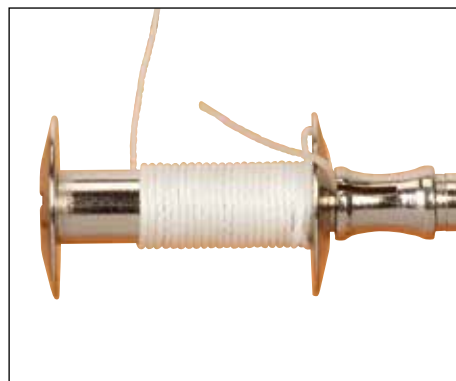

Figure 12
- 2) With a light tension on the thread, turn the drill over slowly and allow the bobbin to wind evenly. **(Figure 12)**